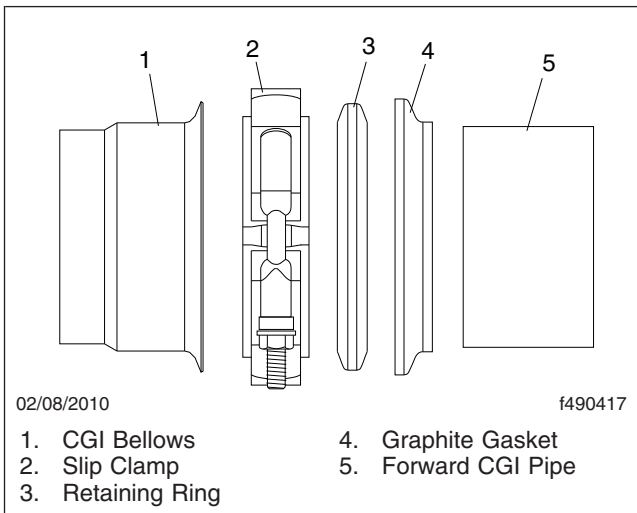

Fig. 10, Forward Facing Slip Clamp Installation
13. Install the slip clamp with the retaining ring and graphite gasket ring onto the forward CGI pipe. See **Fig. 10** for proper installation.